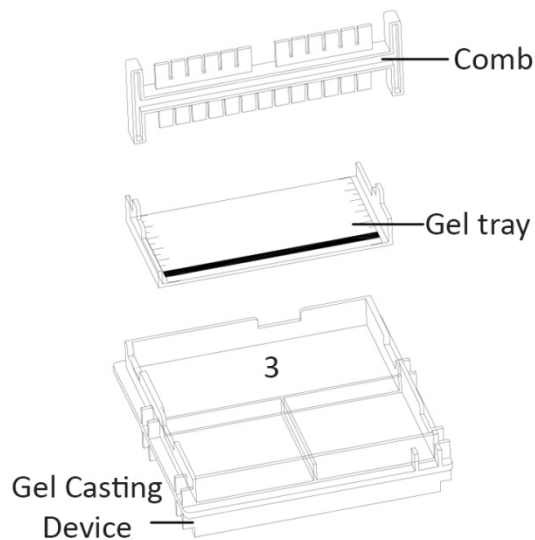

Figure 3
- b. Wide gel ( $120\text{mm} \times 60\text{mm}$ ): Framework 3 is only for one piece of wide gel. Put the wide gel tray ( $120\text{mm} \times 60\text{mm}$ ) into the framework, then insert the comb as shows in figure 3. Pour the heated agarose gel into the gel casting device.